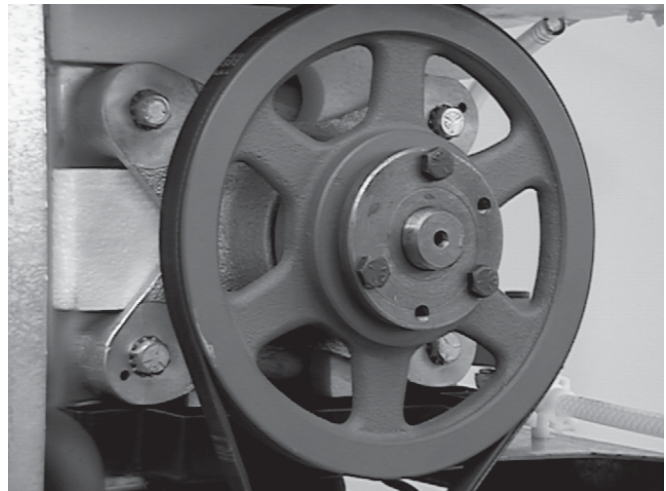

Figure 39. Bearing Assembly
4. Remove the four retaining bolts and washers, then remove the bearing and pulley assembly through the back of the freezer. Figure 39.
3. Remove right side fan bracket, then remove fan from right side. Figure 39.